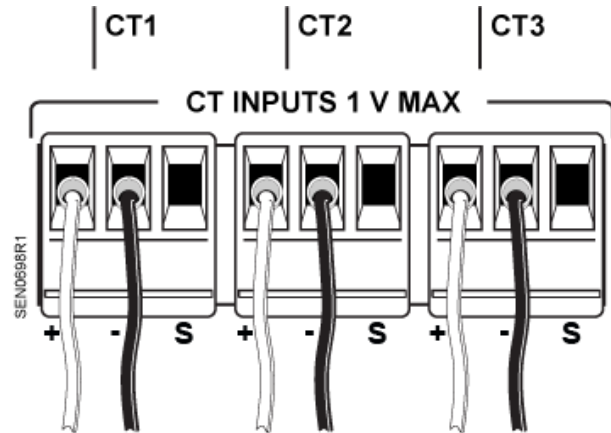

Figure 5. Connect White Wire to Positive (+) Terminal.
6. Connect the white wire on the CT to the positive terminal (+) on the measuring device. See Figure 5.
7. Connect the black wire on the CT to the negative terminal (-) on the measuring device. No connection will be made to the shield (S) terminal. See Figure 5.